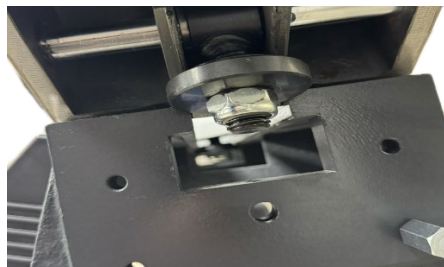

Figure 7-4: cam adjustment
2. Turn tailstock on its side, and tighten lock nut (Figure 7-4) to increase cam pressure, or loosen the nut to relieve cam pressure.